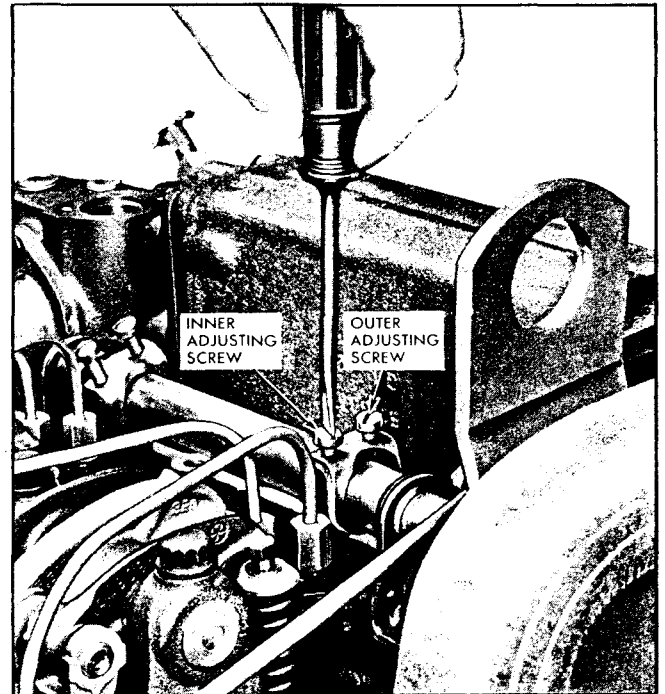

Fig. 2 - Adjusting Height of Rack Control Lever Adjusting Screws
1. Adjust the inner and outer adjusting screws (Fig. 2) on the rear injector rack control lever on the control tube. Check the clearance between the fuel rod and the cylinder head bolt or the cylinder head casting (below the bolt) for at least 1/16" clearance when the injector rack is in the full-fuel position and the rack adjusting screws are tight. If the fuel rod contacts the bolt or the cylinder head casting, re-adjust the screws to obtain the 1/16" clearance.